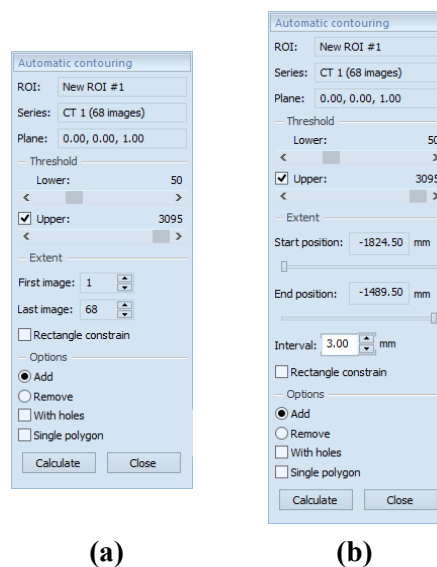

Figure 253 – Auto ROI tool for original images (a), for reconstructed images (b)
3. The **Auto ROI** tool is then automatically displayed as a new tab in the tools panel where you can define the parameters for automatic contouring (see Figure 253).